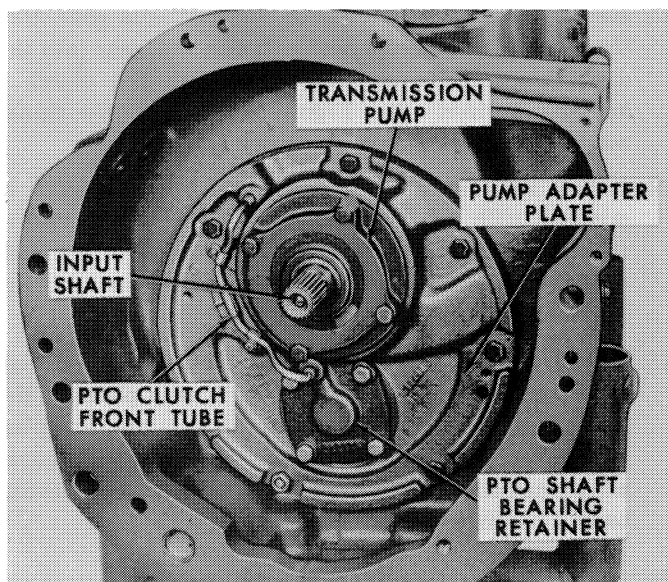

Figure 62
1. Remove the pump, Figure 62, and gasket by removing the four mounting bolts. Tap the pump with a soft-faced hammer and slide it from the input shaft.